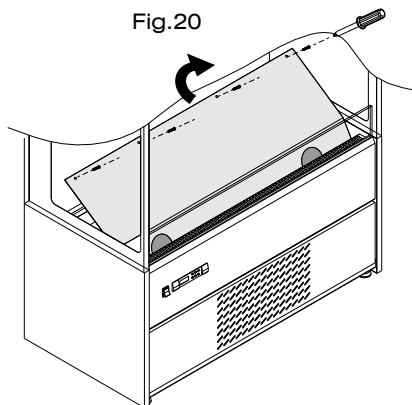

Fig.20
- Remove the back screws from the fan holder and rotate until the bottom part is accessible (See fig.20)